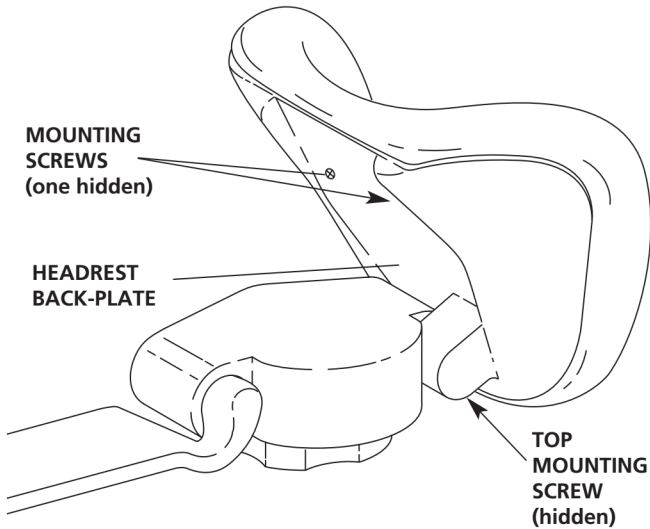

Figure 9. Replacing the Headrest Upholstery
3. Rotate the headrest back 45° to expose the two Phillips mounting screws on the lower headrest back-plate (see Figure 9). Remove the two screws and the headrest cushion.